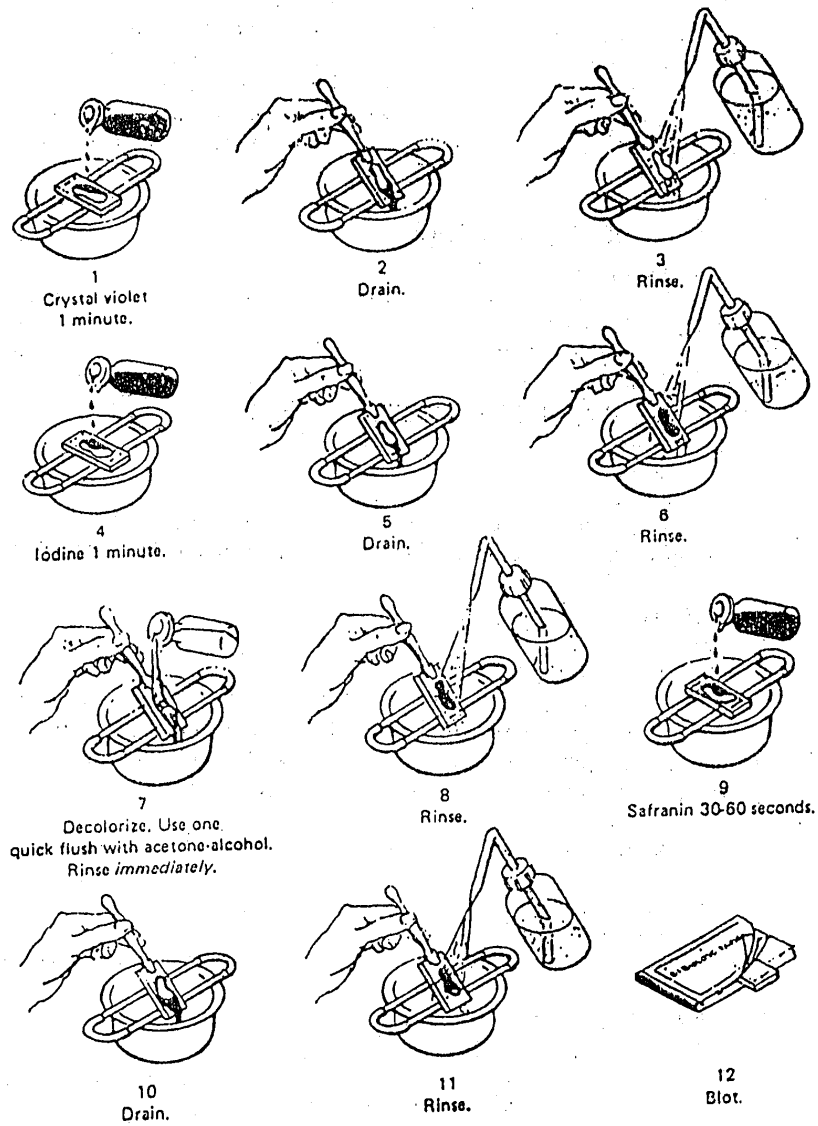

Figure 3-1 : The Gram stain procedure
- 3- Perform the Gram stain as follows. See Figure 3-1 for a pictorial representation of this procedure. You may be using different staining bottles; the procedure, however is the same.
- 3- Perform a complete Gram stain on these unknown smears, following the steps in Activity 1 (Figure 3-1).